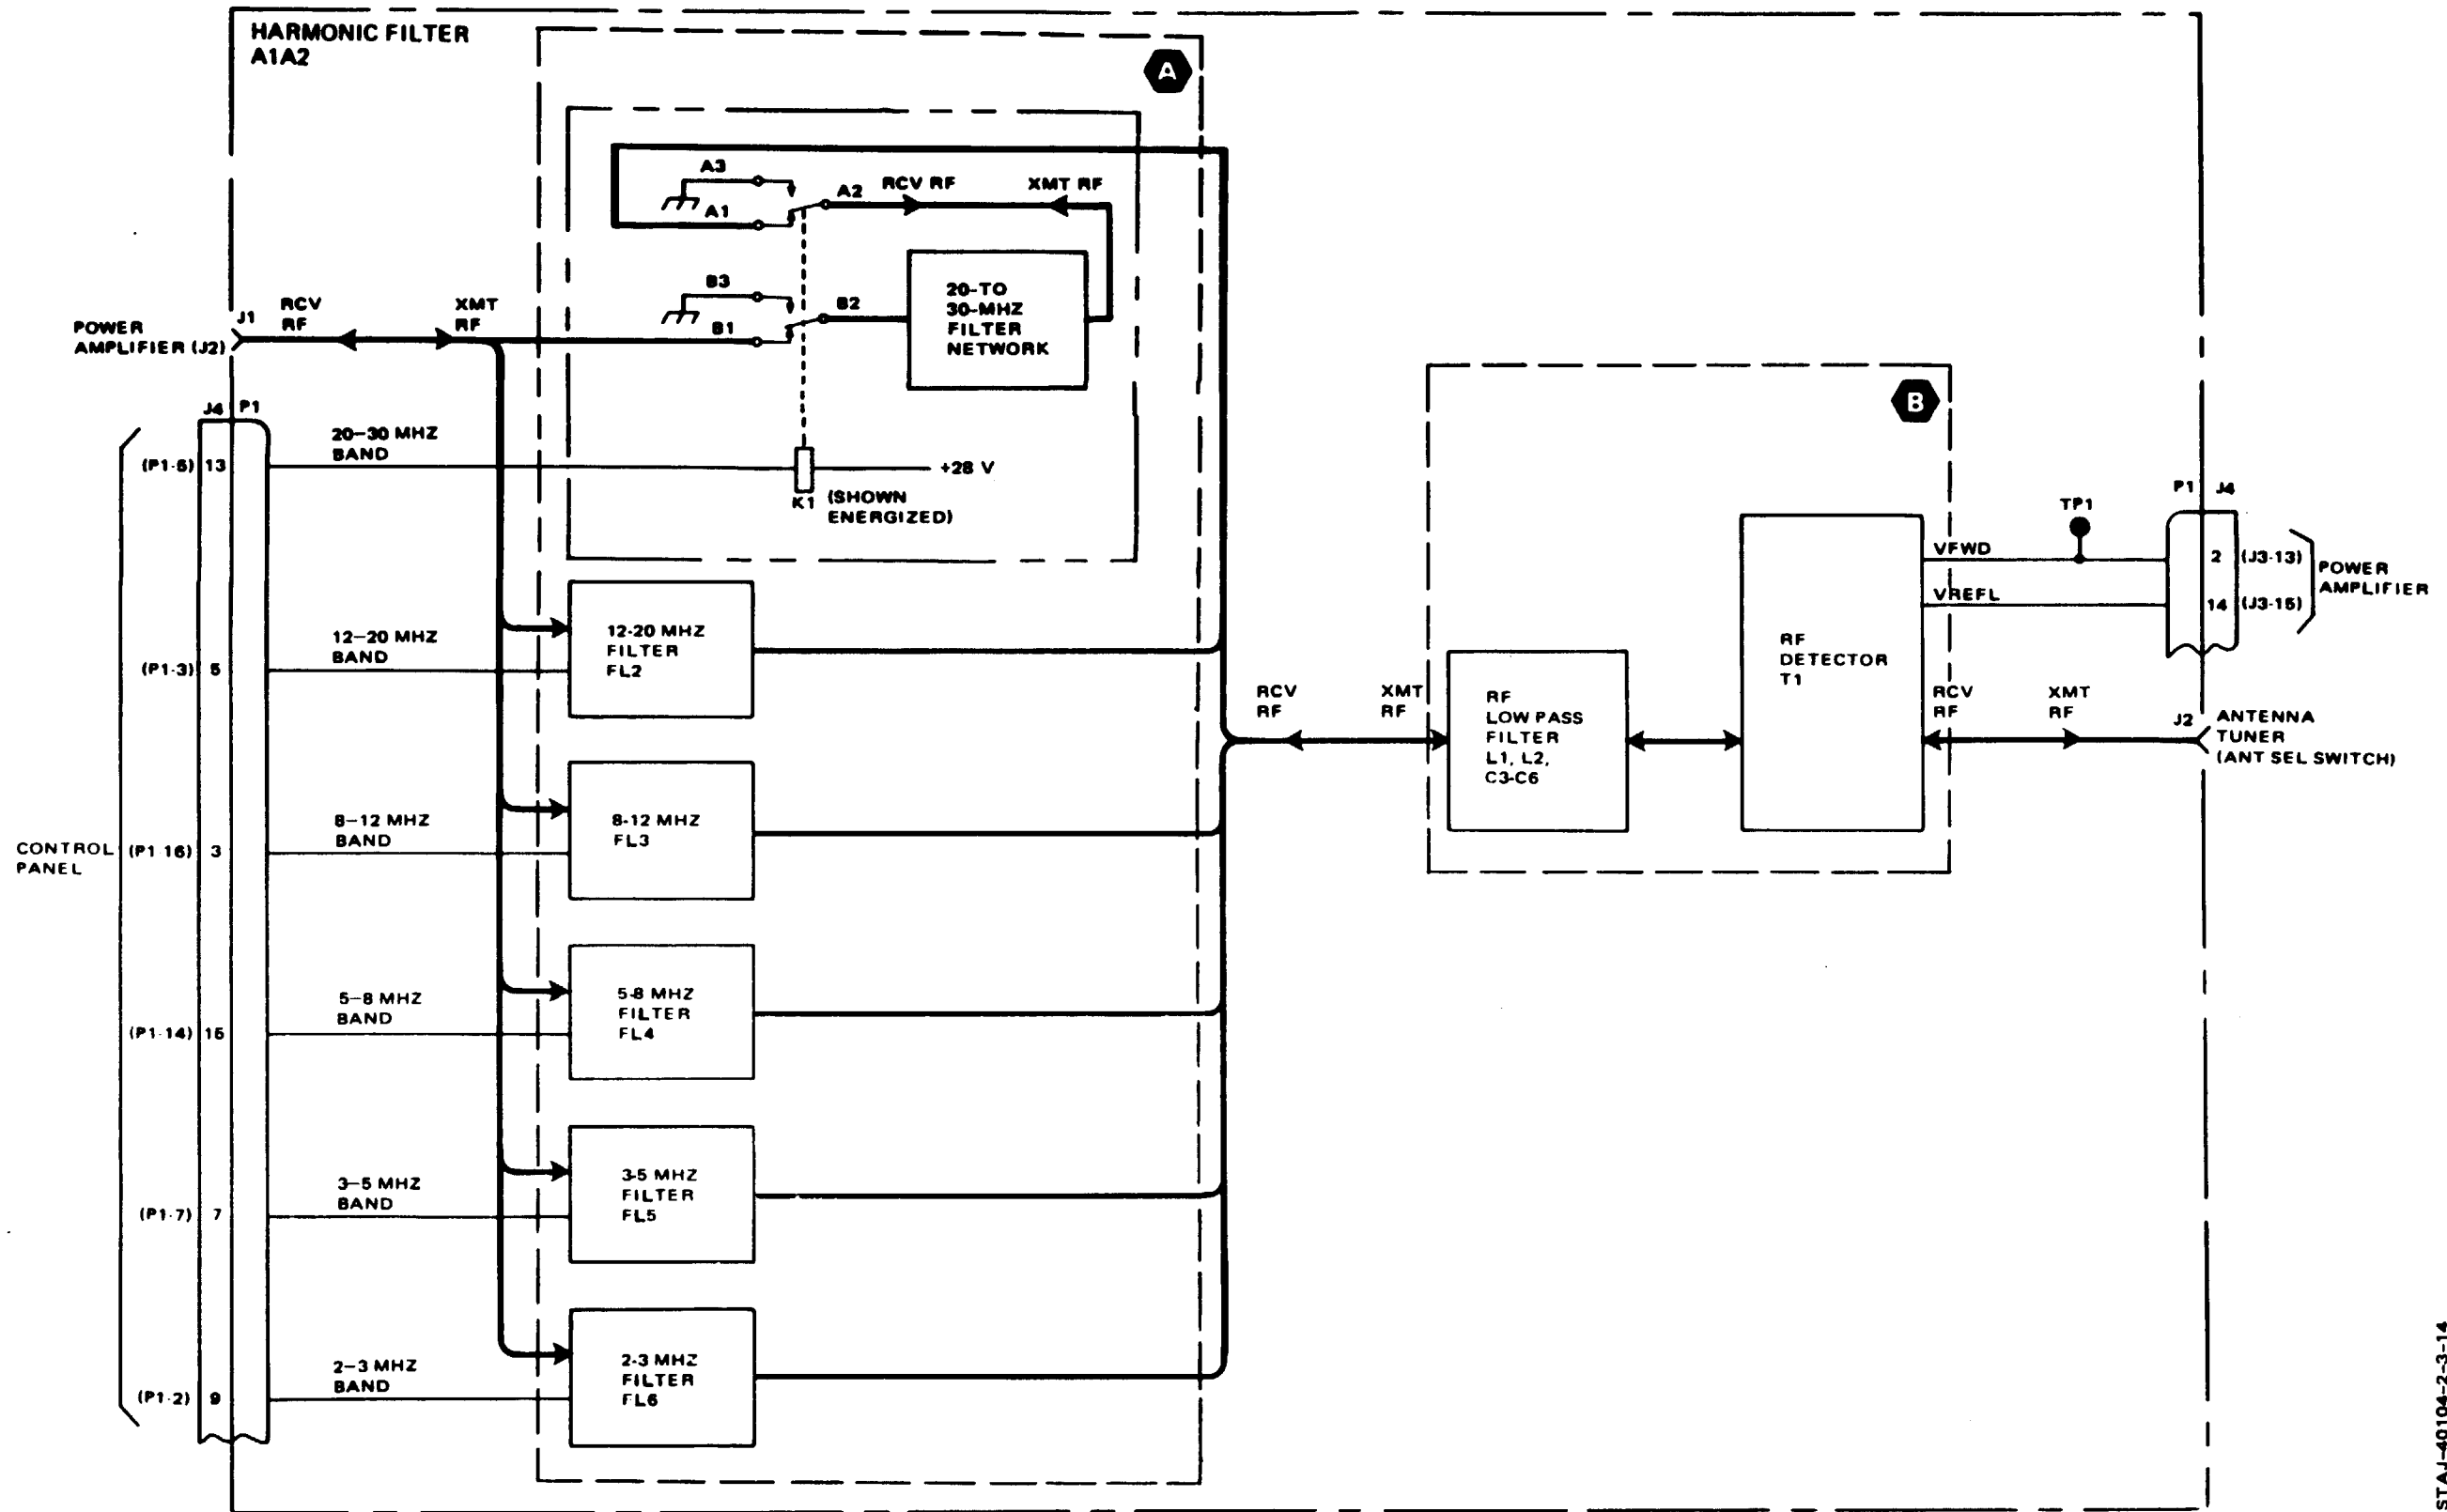

Figure 2-18. Harmonic Filter
**HARMONIC FILTER (1 of 2), fig 2-18**